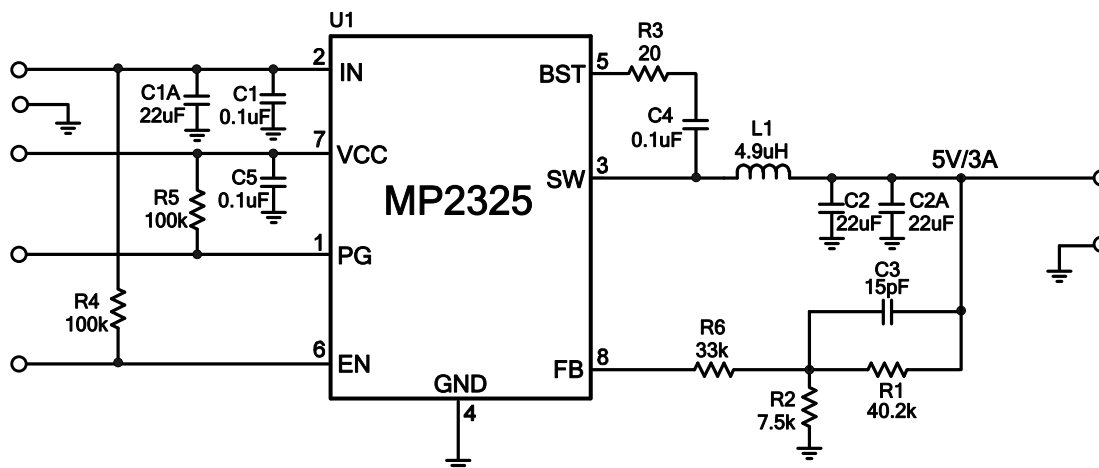

Figure 8: $V_o=5V$, $I_o=3A$
- 6) The recommended layout is based on the Figure 8 Typical Application circuit on the next page.
The detailed application schematics are shown in Figures 8 through 13. The typical performance and circuit waveforms have been shown in the Typical Performance Characteristics section. For more device applications, please refer to the related Evaluation Board Datasheets.